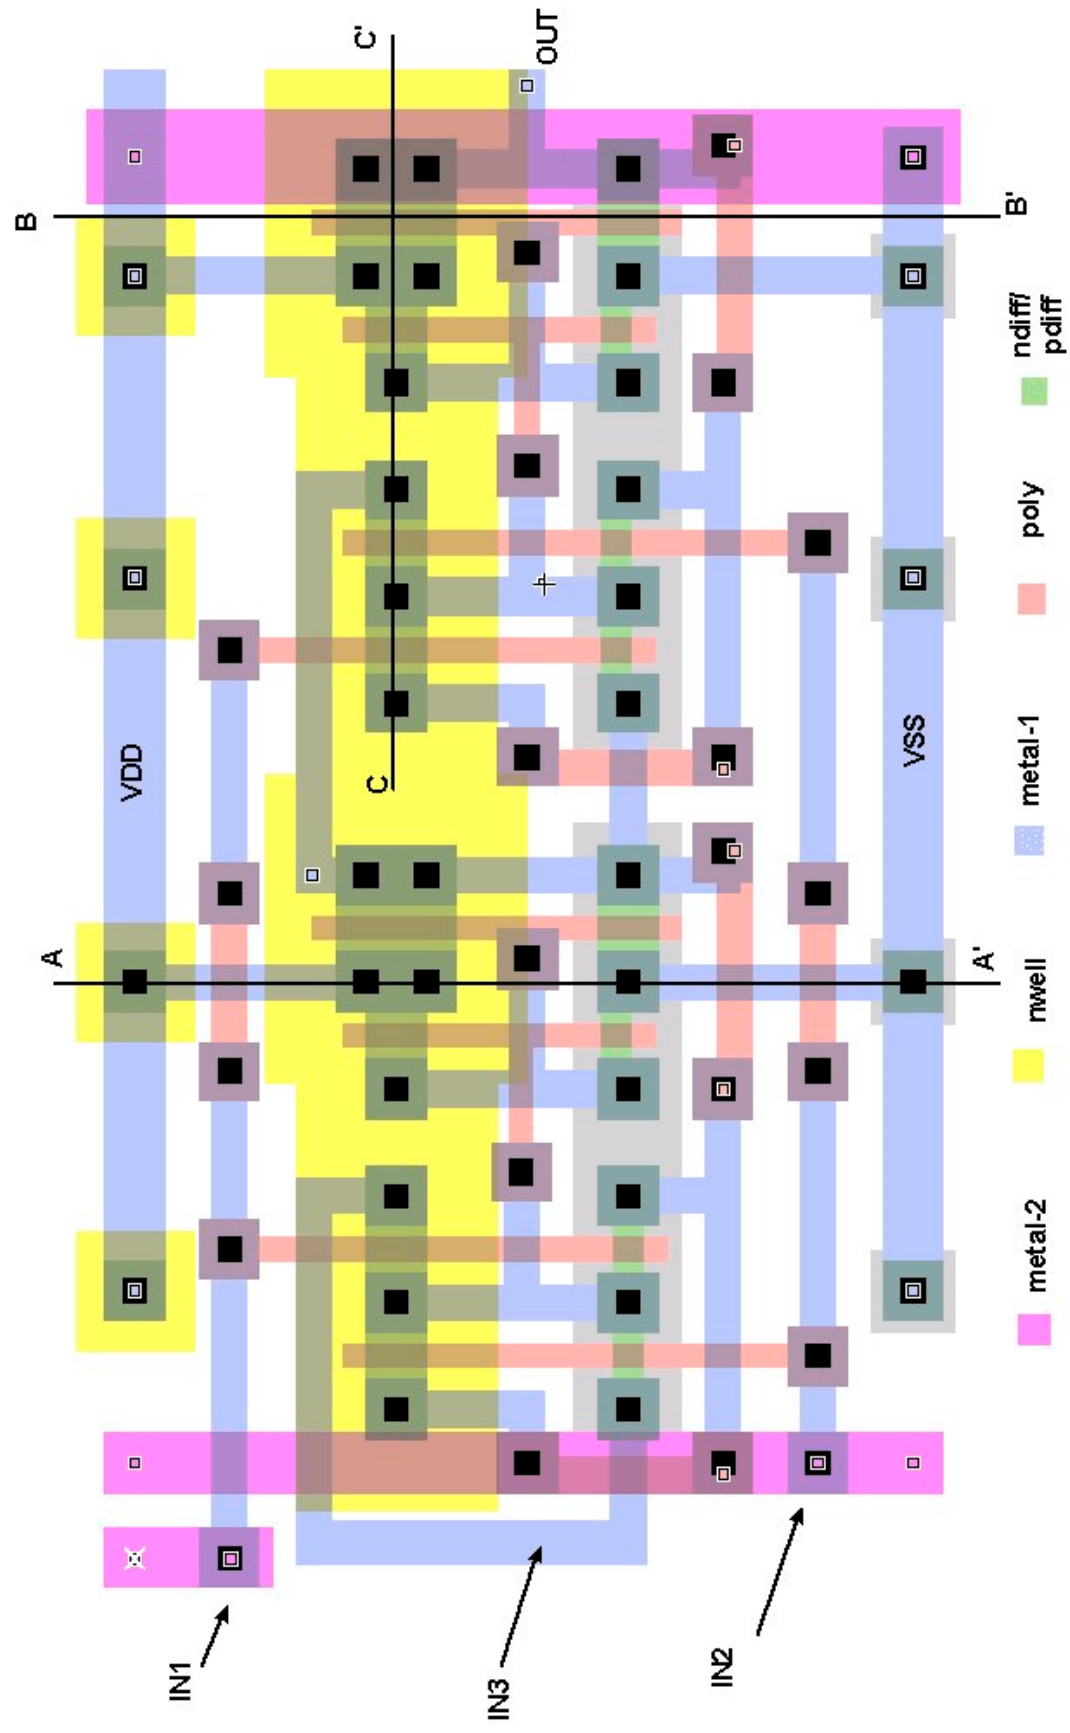

Figure 1 Layout of a full-custom cell for Question 2
2. a) *Figure 1* (See the colour supplementary sheet) shows the layout of a CMOS cell with three inputs IN1, IN2 and IN3, and one output OUT. Extract and draw the transistor-level schematic diagram.